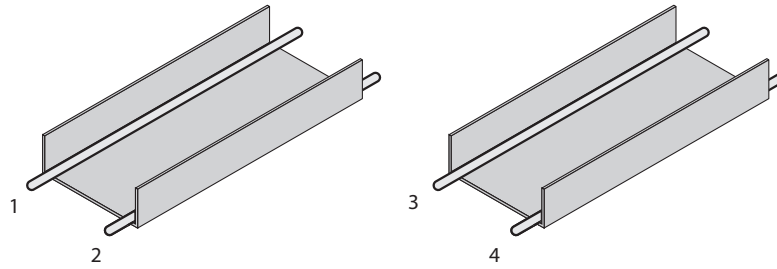
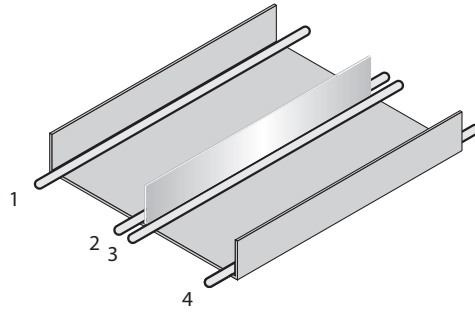

Figure 3: Ideal laying - Place cables in different cable channels
Figure 4: Alternative laying - Separate cables with metallic separators
- ▷ Route the cables in groups 1, 2 and 3, 4 in different cable channels or use metallic separators (see figure 3 and see figure 4). This applies particularly if cables of devices with a high level of radiated emission, such as frequency converters, are laid parallel to sensor cables.